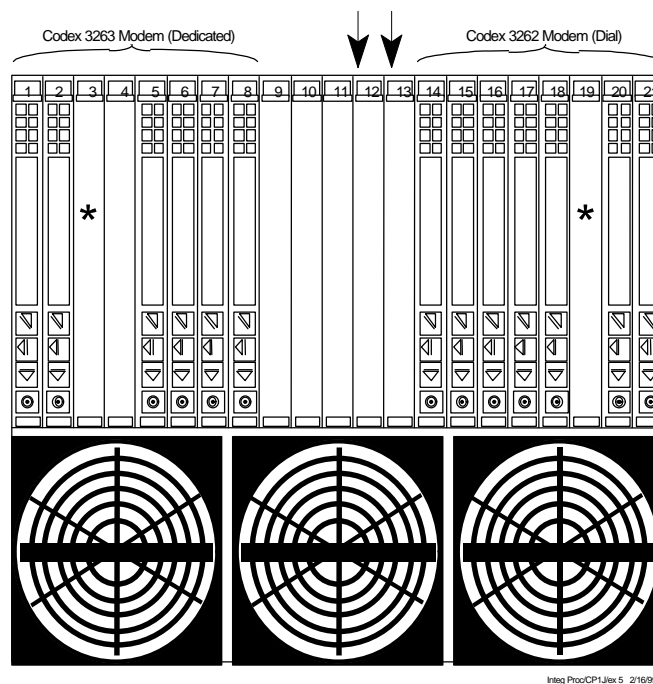

Figure 1: AWIPS/LDAD Modem Nest (Front)
3. Open the front door of the Modem Nest and remove the filler panels from slots 9 through 13 (figure 1). Break off and discard the two end panels and replace the three remaining panels over slots 9 through 11.